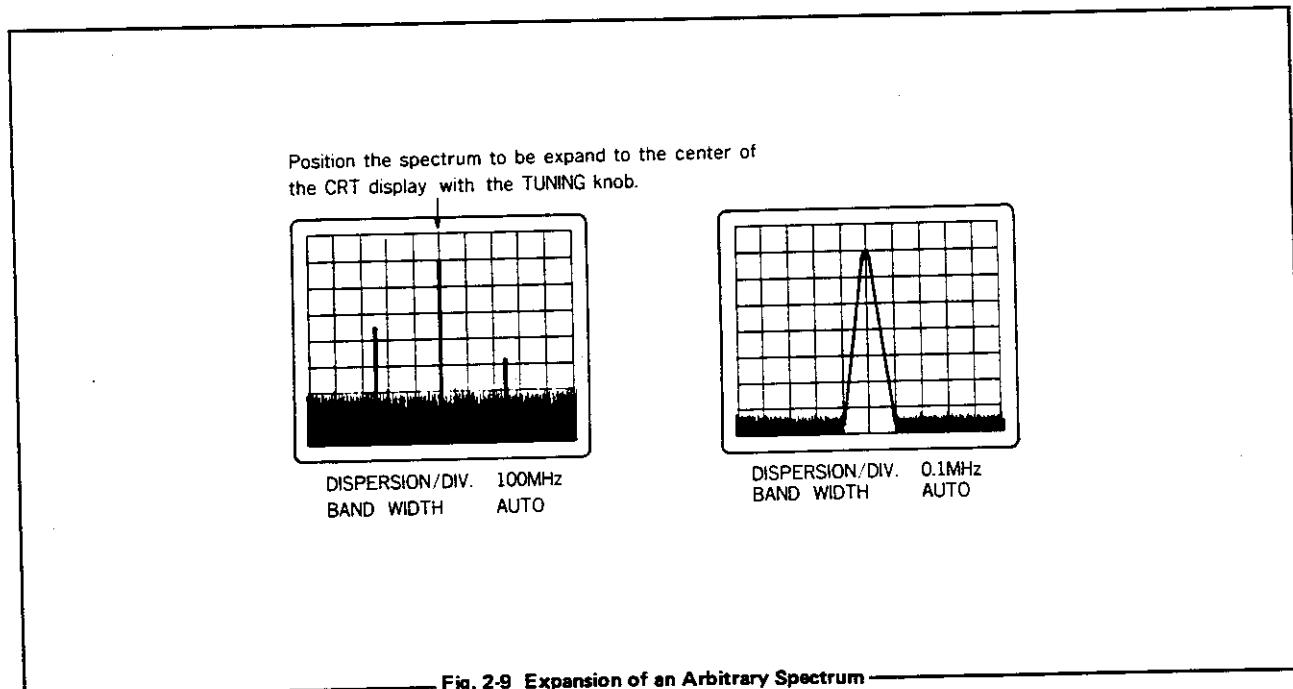

Fig. 2-9 Expansion of an Arbitrary Spectrum
(15) Turn **RF. ATT.** clockwise, and see that the signal on CRT display goes downward in 10dB increments with **REFERENCE LEVEL** display increased in 10dB increments. If **RF. ATT.** is set to 0dB, the zero frequency level on CRT may vary. However, the magnitude of the zero frequency is not related to operation of the instrument.
(16) Use **DISPERSION/DIV.** switch if intending to expand and observe an arbitrary signal spectrum. With **BAND WIDTH** switch set to **AUTO** and positioning the spectrum to be observed at the center of CRT display by **TUNING**, turn **DISPERSION/DIV.** switch clockwise. The spectrum will be expanded. If the spectrum cannot be observed appropriately on the CRT when expanded, re-adjust **TUNING** for correct position. [Fig. 2-9]